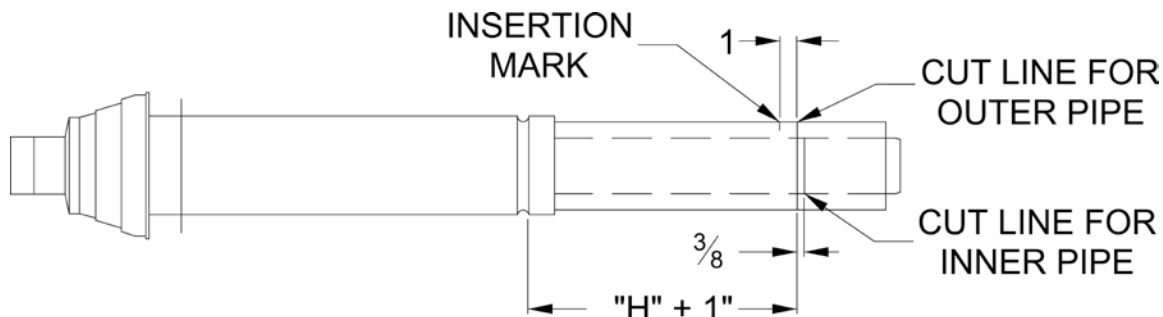

Figure 26: Cutting Vertical Terminal
1. Vertical (Roof) Terminal Installation. Refer to Figures 26, 27 and 28.
- e. Add 1" to distance "H". Carefully mark this length on the pipe as shown in Figure 26.
- g. Place a mark on the plastic inner pipe 3/8" beyond the end of the outer pipe (Figure 26). Use a fine tooth hacksaw to cut the plastic pipe and be careful to cut the pipe square. De-burr the cut edge of the plastic pipe with a file or emery cloth.
- h. Make a mark on the terminal section 1" from the cut end of the outer pipe as shown in Figure 26.